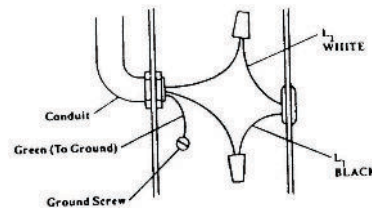
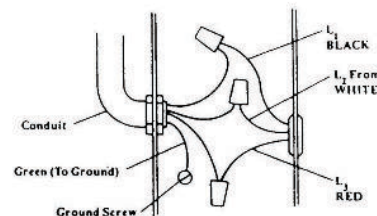

FIGURE 12 – SINGLE PHASE
FIGURE 13 – THREE PHASE
- Use the wire nuts to make connections in the wiring compartment. See Fig. 12 for single phase models. See Fig. 13 for three phase models.